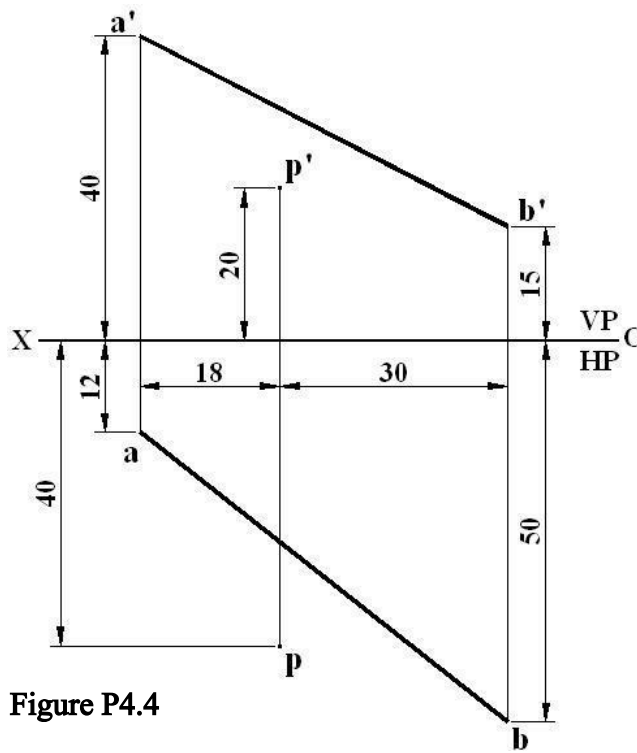

Figure P4.4
4. **Figure P4.4** shows projections of the axis **CD** of a cylinder and point **P** lying on the surface of the cylinder. Determine the radius of the cylinder.